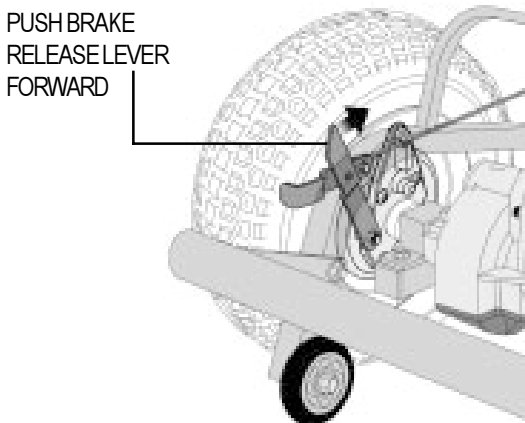
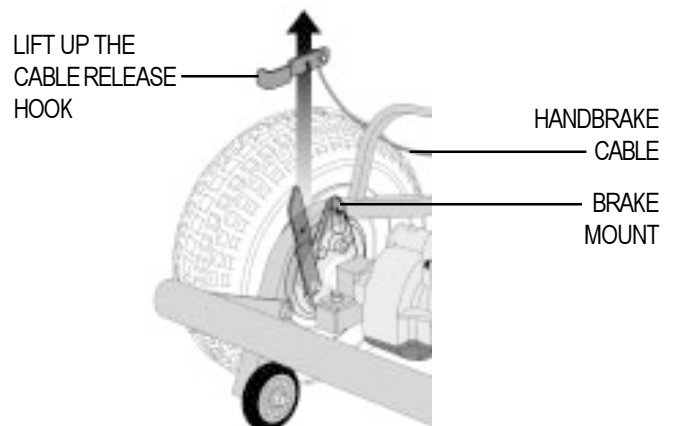

FIGURE 23. DISENGAGE HANDBRAKE CABLE
FIGURE 24. DISENGAGE HANDBRAKE CABLE
9. Disconnect the handbrake cable from the rear hub by pushing forward and holding the brake release lever with your thumb. See figure 23. Lift the cable release hook free of the peg and slide the handbrake cable free of its slot on the brake mount. See figure 24. Move the cable safely out of the way.